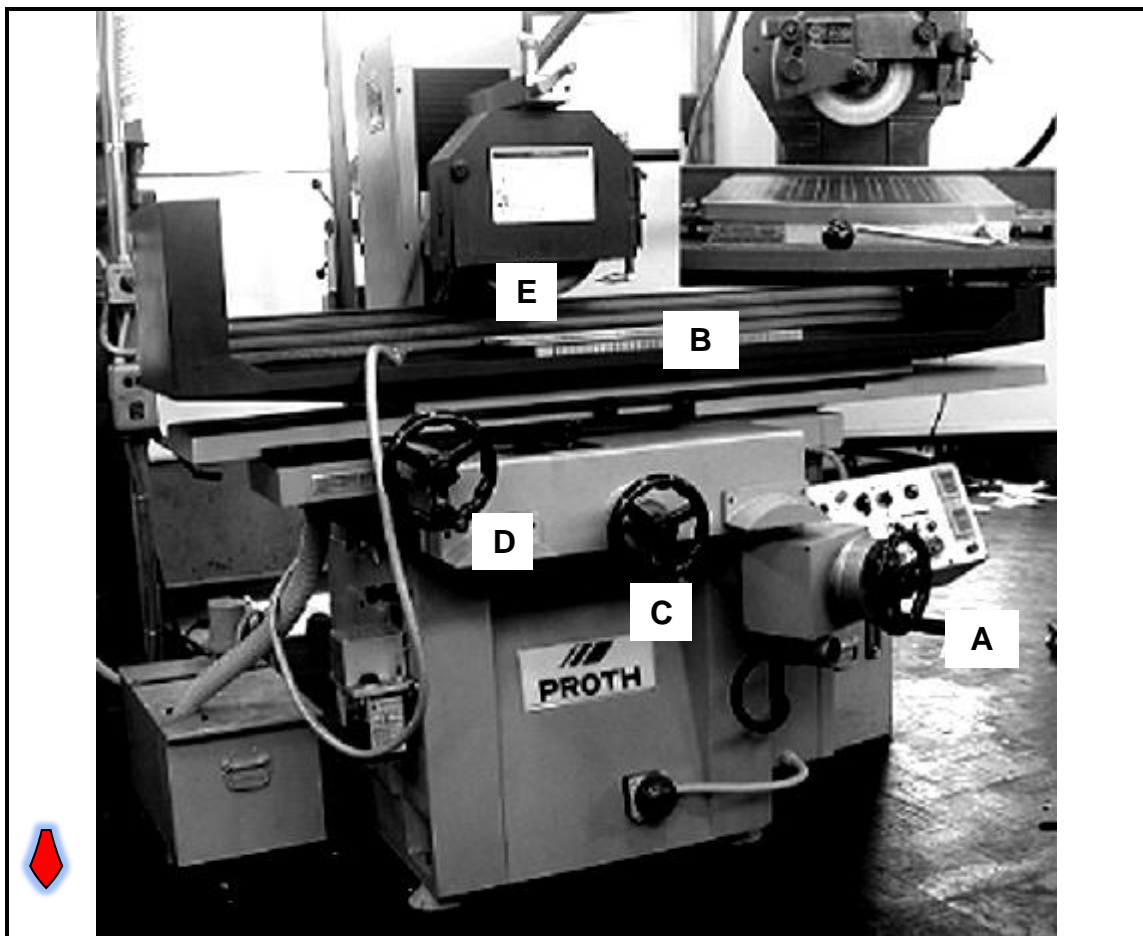

FIGURE 3
4.1 FIGURE 3 below shows a very important machine in the machining workshop.
4.1.1 Name the machine in FIGURE 3 and state what it is used for.
4.1.2 Identify the components marked (A–E) in FIGURE 3.
Identify the components marked (4.2.1–4.2.5) in FIGURE 3.